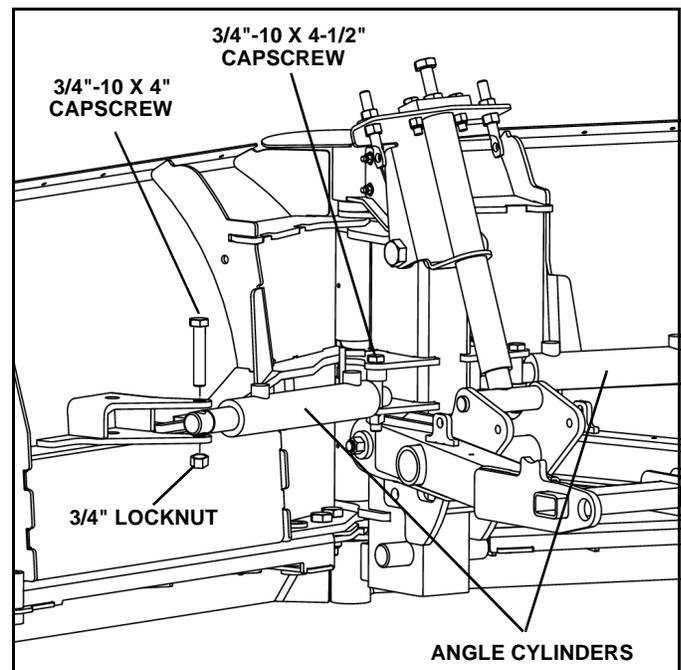

Figure 1-9
9. Attach angle cylinder base to tower with a 3/4" x 4-1/2" capscrew and 3/4" locknut. Attach angle cylinder rod to blade with a 3/4" x 4" capscrew and 3/4" locknut. (See Figure 1-9) Repeat for opposite angle cylinder.